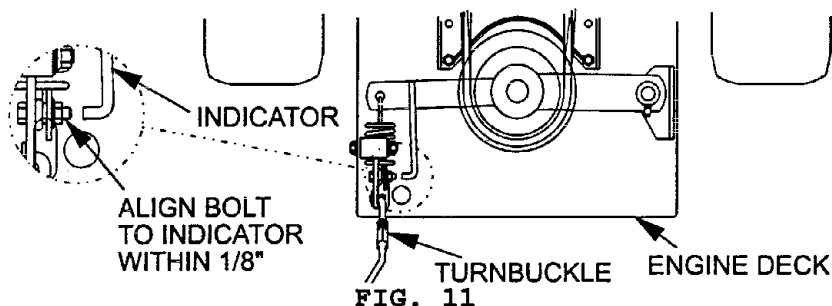

FIG. 11
- c) Look through the round hole in the left rear corner of the engine deck to inspect blade clutching belt tension. Bolt on blade engagement linkage bellcrank and indicator arm should align within 1/8" (See fig. 11). Refer to section 5.2.2 for adjustment.
- b) With blade drive engaged, adjust the linkage length by loosening the locknut on the turnbuckle and adjusting the turnbuckle so that the bolt on the bellcrank and the indicator arm align with each other within 1/8". See Figure 11. Tighten locknut against turnbuckle.